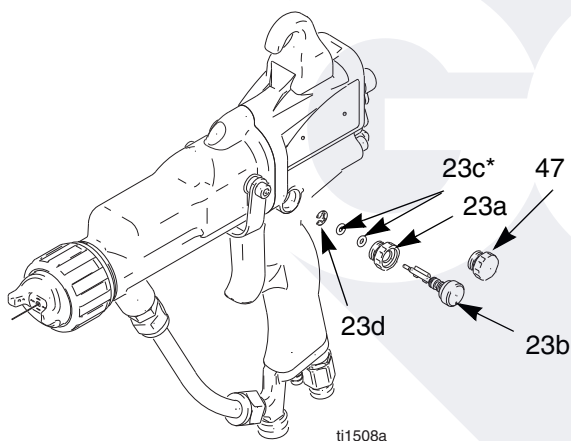

Fig. 22. Atomizing Air Restrictor Valve
2. Remove the atomizing air restrictor valve (23). Inspect the o-ring (23c*). Replace if necessary. See FIG. 22..
3. Install a new atomizing air restrictor valve (23), or disassemble and replace parts individually. The valve protrusion must be oriented to clear the air valve (21) shaft.